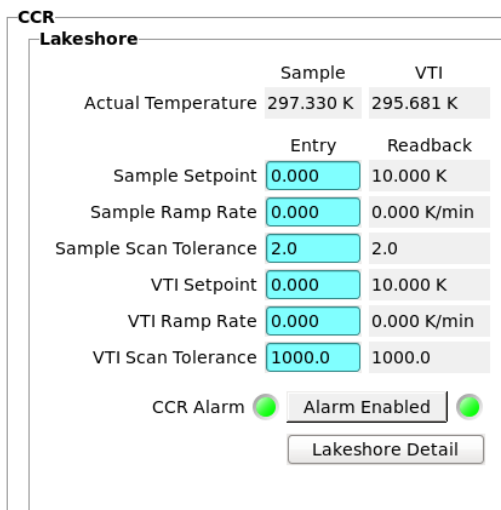

Figure 1. Lakeshore controls on the dashboard.
- a. Disable alarm by clicking the “Alarm Enabled” button in the Lakeshore box on the dashboard (Fig 1).
- s. Re-enable alarm by clicking the "Alarm Disabled" button in the Lakeshore box on the dashboard (Figure 1).